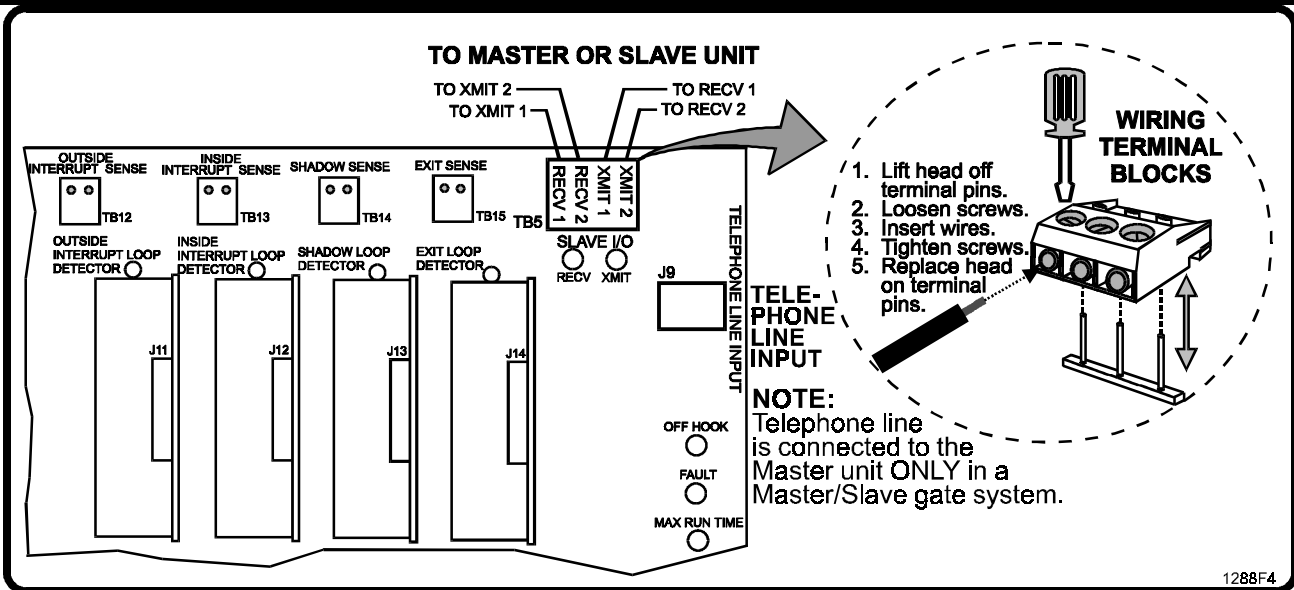

Figure 7. Master/Slave Connection.
4. Connect the Master/Slave interconnect cable: connect the Receive inputs (RECV1, RECV2) on each board to the Transmit inputs (XMIT1, XMIT2) on the other board (see Figure 7).